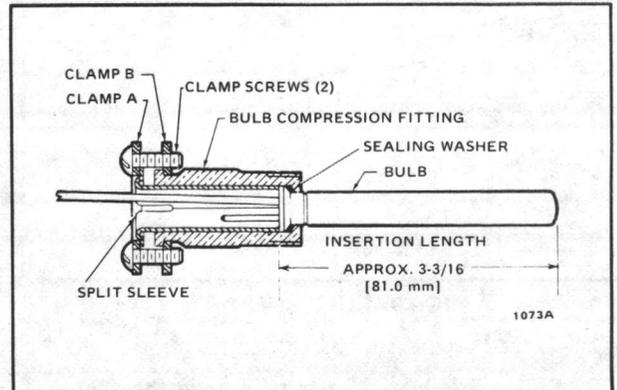
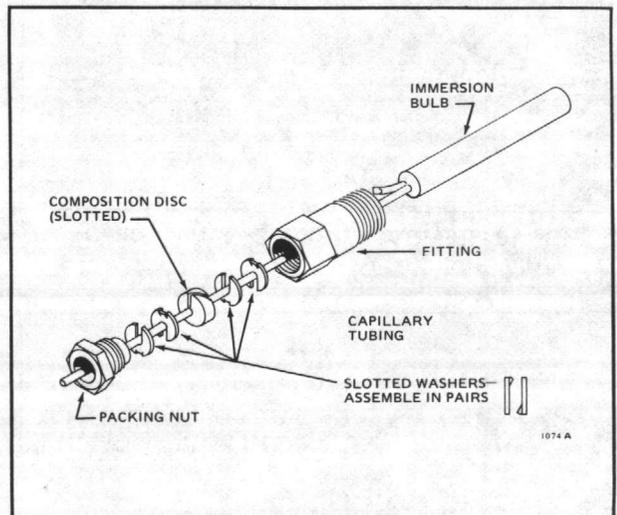

FIG. 7—BULB COMPRESSION FITTING. USE WITH MODEL L4008A,B,E,J, OR L6008A.
FIG. 8—CAPILLARY COMPRESSION FITTING. USE WITH MODEL L4008C,D,K, OR L6008C,E.
Bulb Compression Fittings (see Fig. 7)—
Capillary Compression Fittings (see Fig. 8)—
the remote bulb with a bulb compression fitting (Fig. 7), or capillary compression fitting (Fig. 8).
4. Place composition disc and 4 slotted brass washers on tubing in the order shown in Fig. 8. Turn brass washers so that slots are 180 degrees apart.